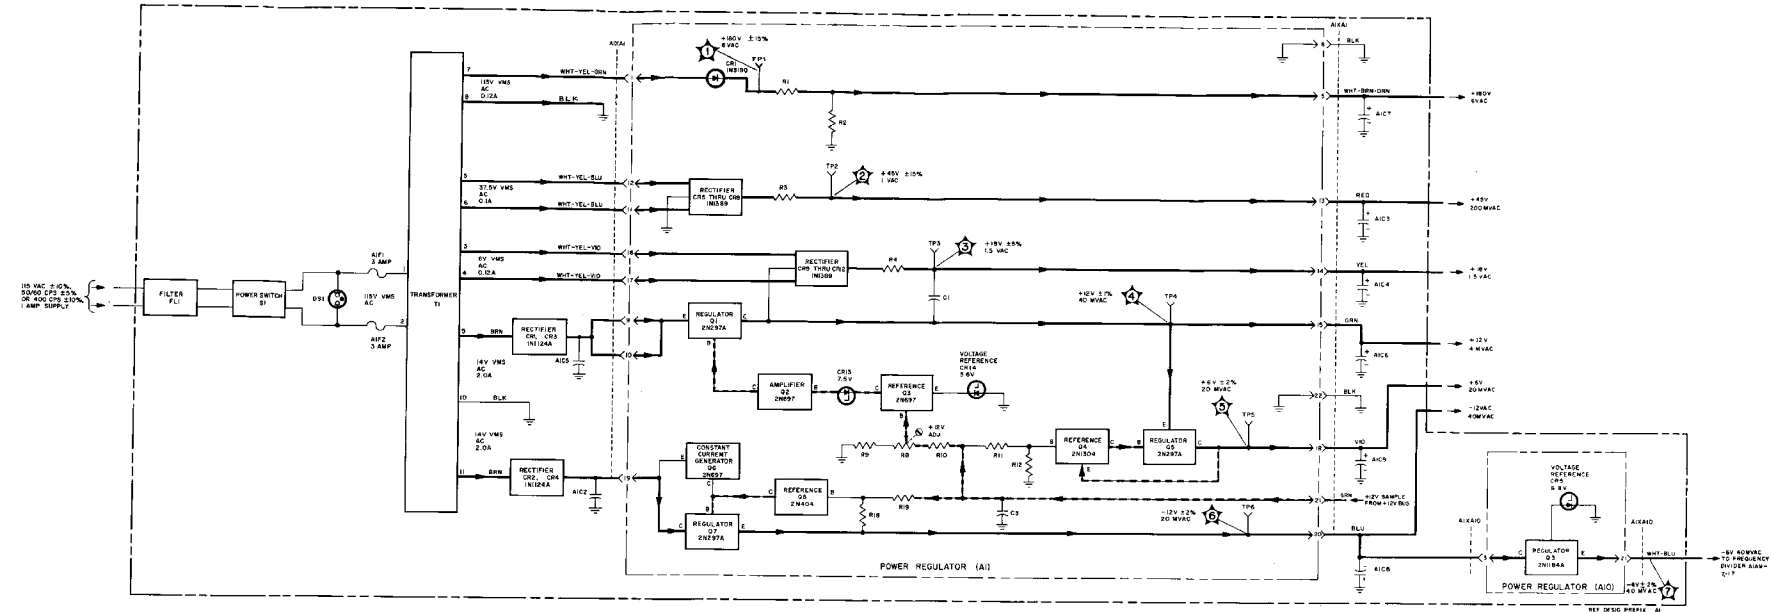

Figure 4-30. Power Supply, Functional and Servicing Block Diagram
a. POWER SUPPLY FUNCTIONAL DESCRIPTION. - The power supply functional section consists of seven dc supplies. Five of these supplies (+18-volt, +12-volt, +6-volt, -6-volt, and -12-volt) are regulated and two (+180-volt and +45-volt) are unregulated. The majority of the power supply circuits is constructed on printed circuit board A1A1. The power transformer, four rectifier diodes, and eight filter capacitors are mounted on the main chassis. The regulator for the -6-volt supply is constructed on part of printed circuit board A1A10. Figure 4-30 shows the functional relationship of all circuits in the power supply.
c. USEFUL ILLUSTRATIONS.- Illustrations useful in maintaining this functional section are: figures 4-30, 5-38, 5-45, and 5-80.